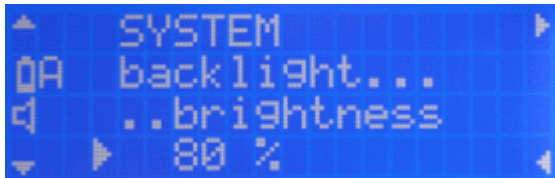

Figure 34: Main menu SYSTEM, submenu backlight brightness
- Switch to backlight brightness by pressing button 2 or 4 several times. Move the cursor to line 4 on the display by pressing button 3 (Figure 34).